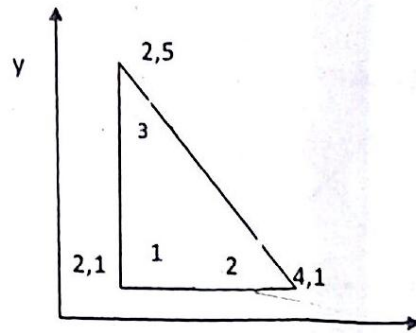

Figure 13 (a)
13. (a) For the plane strain elements shown in figure 13(a), the nodal displacements are given as  $u_1 = 0.005$  mm,  $v_1 = 0.002$  mm,  $u_2 = 0.0$ ,  $v_2 = 0.0$ ,  $u_3 = 0.005$  mm,  $v_3 = 0.30$  mm. Determine the element stresses and the principle angle. Take  $E = 70$  GPa and Poisson's ratio = 0.3 and use unit thickness for plane strain. All coordinates are in mm.